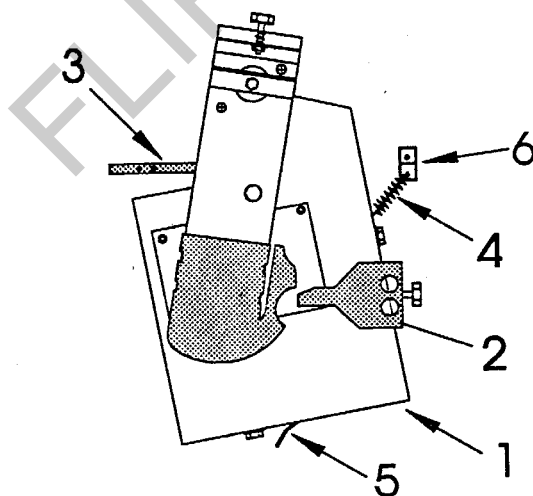

Fig. 1
| 1. CDM4 S player with chassis | part number 0038553 | (Fig. 1, Pos. 1) |
| 2. Gripper arm stop bracket | part number 0038306 | (Fig. 1, Pos. 2) |
| 3. Butt strap for traction lever | part number 0038313 | (Fig. 1, Pos. 3) |
| 4. Fast-on plug | part number 0013072 | (Fig. 1, Pos. 6) |
- Remove tension spring from the right side of the player chassis (Fig. 1, Pos. 4).
- Bend backwards the lock nose in front of the player chassis with a screw driver through the elongated hole at the main chassis (Fig. 1, Pos. 5).
- Loose screws of gripper arm stop bracket (Fig. 1, Pos2), accessible through the holes on top.
2. Change of the gripper arm stop bracket (Fig. 1, Pos. 2).
- Remove fixings screws and exchange old stop bracket for new one (Fig. 1, Pos. 6).
- a) Modification of traction lever (Fig. 1, Pos. 3):**